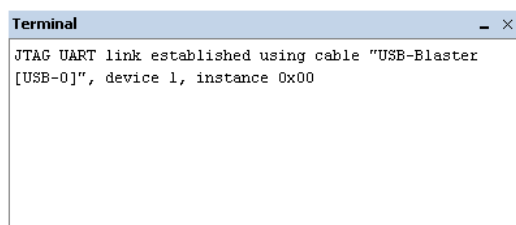

Figure 48. The **Terminal** window after a connection has been established to the JTAG UART on the board.
2. Once the program has been successfully loaded, the **Terminal** window will indicate that a connection has been established, similar to Figure 48.